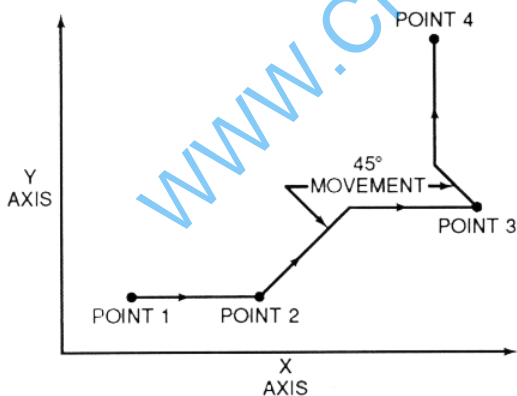

Fig. 9 The path followed by point-to-point positioning to reach various programmed points (machining locations) on the XY axis. (Kelmar Associates)
Point-to-point positioning is used when it is necessary to accurately locate the spindle, or the workpiece mounted on the machine table, at one or more specific locations to perform such operations as drilling, reaming, boring, tapping, and punching (Fig. 9). Point-to-point positioning is the process of positioning from one coordinate (XY) position or location to another, performing the machining operation, and continuing this pattern until all the operations have been completed at all programmed locations.
In Fig. 9 point 1 to point 2 is a straight line, and the machine moves only along the X axis; but points 2 and 3 require that motion along both the X and Y axes takes place. As the distance in the X direction is greater than in the Y direction, Y will reach its